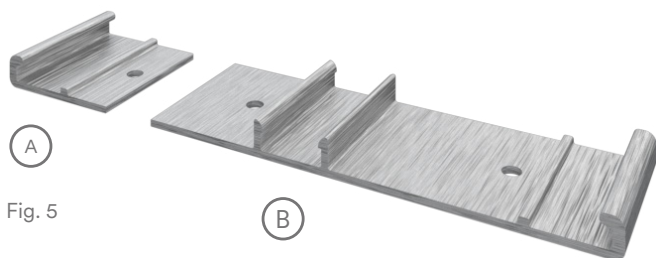

Fig. 5
1. Grasp the Start/Finish Clip Strip on either side of the scored line, and then bend the clip until it breaks apart, as shown. The shorter section is the Starter Clip, and the longer section is the Finish Clip (Fig. 5).